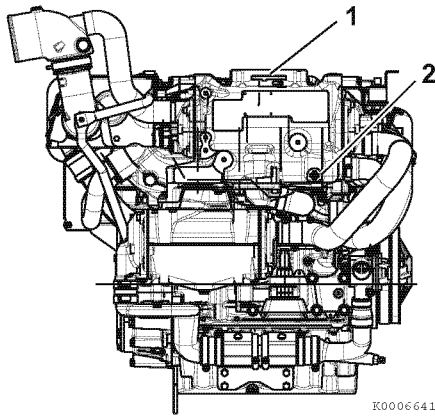

Figure 7-8
6. Install heat exchanger. See *Remove and Install Heat Exchanger* on page 7-13. Ensure the drain cock (2, **Figure 7-8**) on the heat exchanger is closed.
7. If not already done, remove the filler cap (1, **Figure 7-8**) from the heat exchanger.